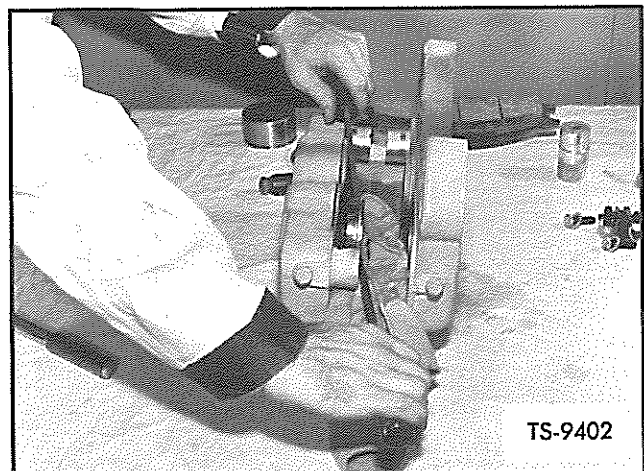

Fig. 19. Remove Blind Side Pistons
10. Remove blind side pistons by prying in to center of brake head with pair of screwdrivers as shown in Figure 19. Alternate method may be used by closing blind side bleeder screw and removing crossover tube, and attaching an external hydraulic source to crossover tube hole pushing piston out with hydraulic pressure.